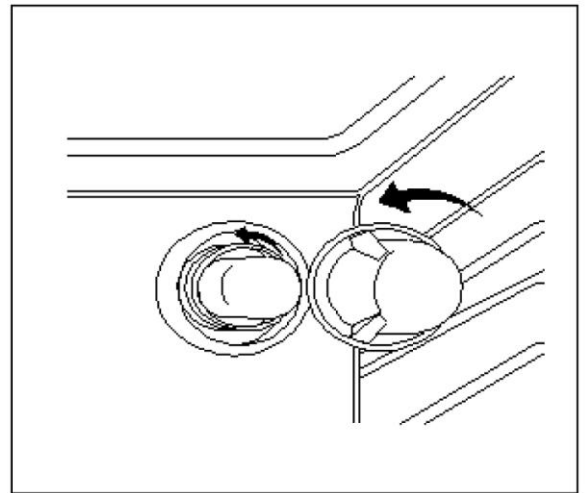

Figure 11
2. Remove the glass cover of the lamp-holder, turning counter-clockwise. (See Figure 11)